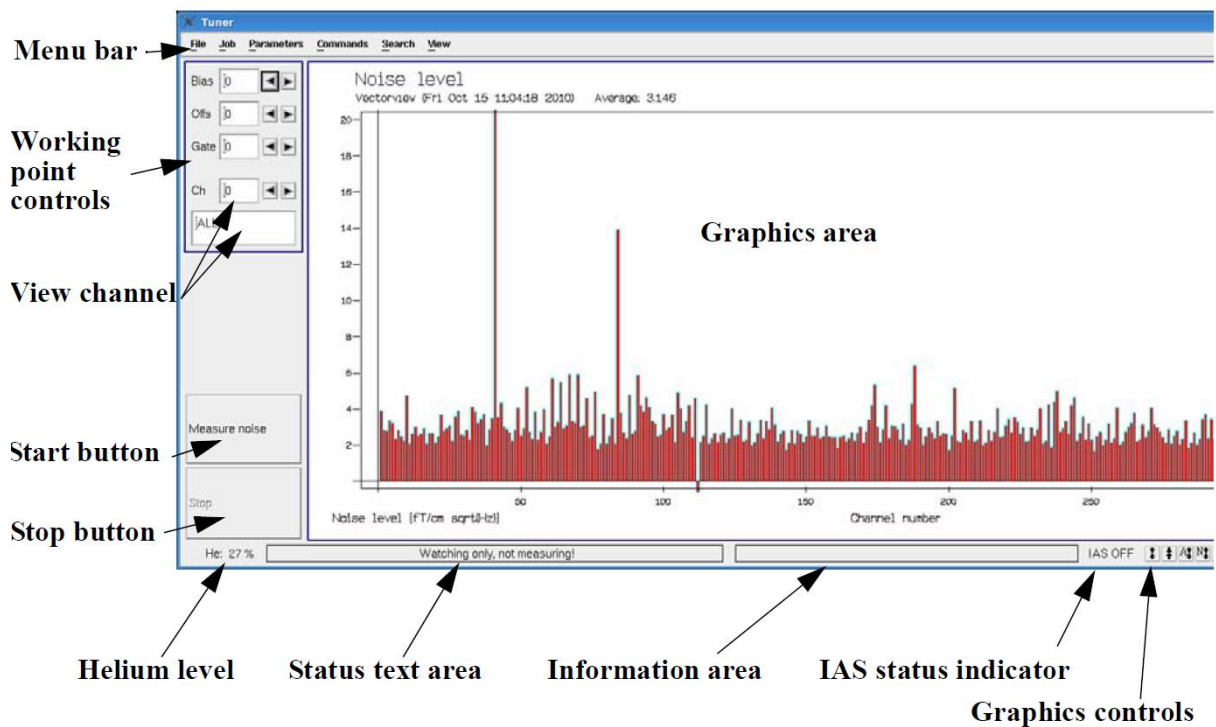

Figure 36: Main window of the SQUID tuning program.
- Start Tuner: **Acquisition -> Tools -> Tuner**. It opens the main window of the tuner (Figure 36).
- Start noise measurement: **Job -> Noise** and select button **Measure noise** (Figure 36).